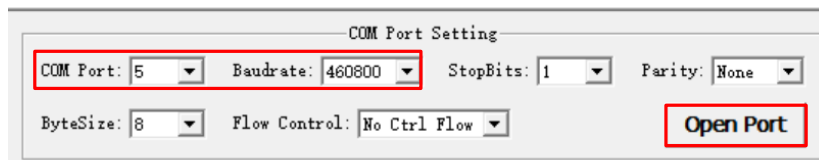
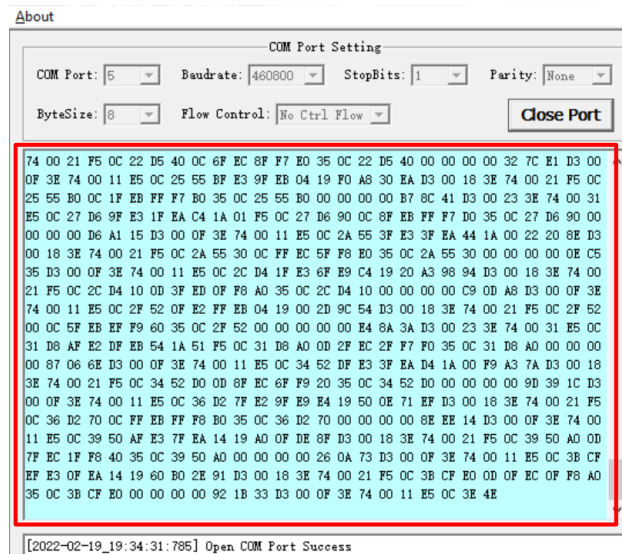

Figure 5: COM Port Setting Interface of QCOM
Figure 6: RTCM Message Output – Displayed on QCOM Tool Interface
Step 6: Click “Open Port” to establish communication with the EVB, as shown in the *Figure 5*. The RTCM message output by the module will be displayed in the receiving bar of the QCOM tool, as shown in the *Figure 6*.